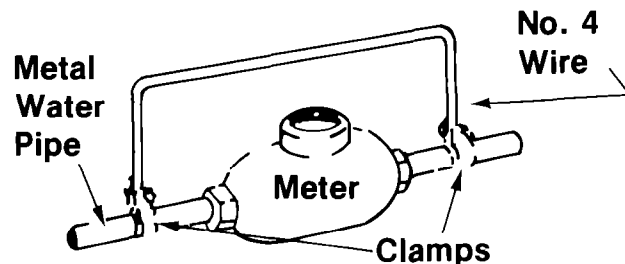

Figure 8
* Grounded cold water pipe must have metal continuity to electrical ground and not be interrupted by plastic, rubber or other electrical insulating connectors such as hoses, fittings, washers or gaskets (including water meter or pump). Any electrically insulated connector should be jumped with a length of No. 4 copper wire securely clamped at both ends (see Figure 8).